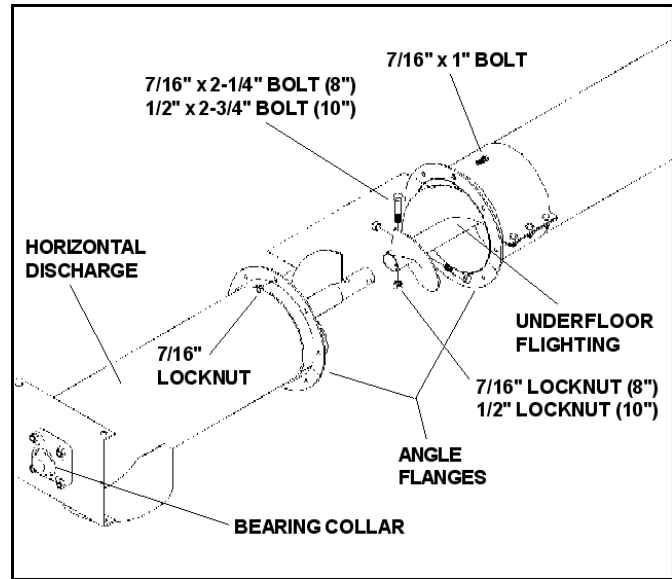

Figure 4.27
2. On horizontal powerhead, remove bearing collar from the fighting shaft. As shown in Figure 4.27, slide fighting out of tube and attach stub shaft to underfloor fighting. Ensure that the two flightings overlap. Use two 7/16" x 2-1/4" (for 8") or two 1/2" x 2-3/4" (for 10") bolts and locknuts and tighten securely.
4. Re-install fighting back into powerhead tube, and connect the two angle flanges together (Figure 4.27) using eight 7/16" x 1" bolts and locknuts. Tighten securely.